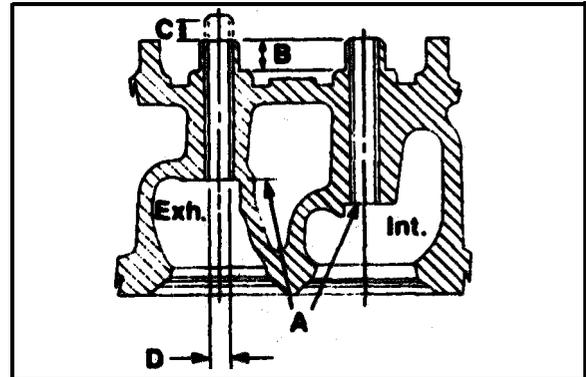

Figure 6-10
10. Install valve guides to dimensions A thru D (Figure 6-10).